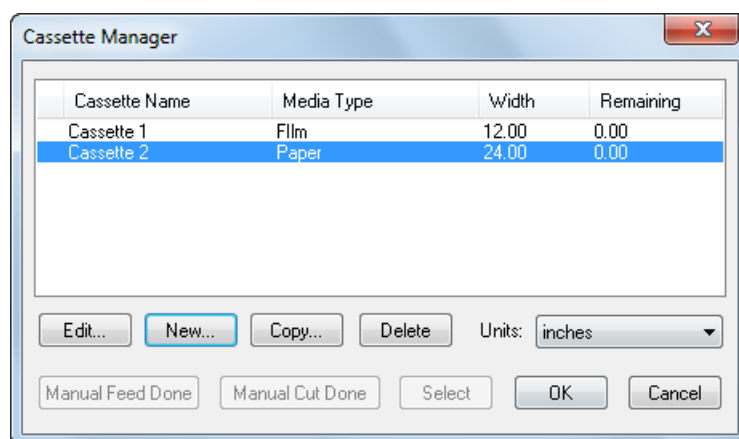

Figure 9.4 Cassette Manager dialog box
Before processing any jobs, you need to tell the RIP about the cassettes you are using and give details of the media currently in each cassette. You do this from the Cassette Manager dialog box. Click the **Cassette Manager** button in the Edit Page Setup dialog box or choose **Output > Cassette Manager** to open the Cassette Manager dialog box, as shown in Figure 9.4.
- If you perform a manual operation by using controls on the output device, you must inform the RIP. Display the Cassette Manager and click the button **Manual Cut Done** or **Manual Feed Done** whenever you perform the corresponding manual operation. See Figure 9.4, page 258, and the following description of the buttons.